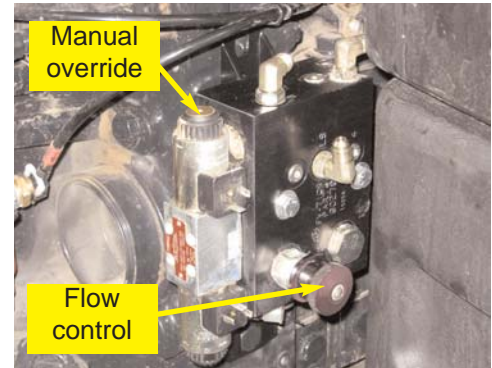

Figure 10. Manual override and flow control valve.
- Turn counter-clockwise to increase flow.(Figure 10.)
- e. The coils on the automated steering block have manual push button overrides. Push either manual override to move the steering wheels all the way to one extreme. (Figure 10.)